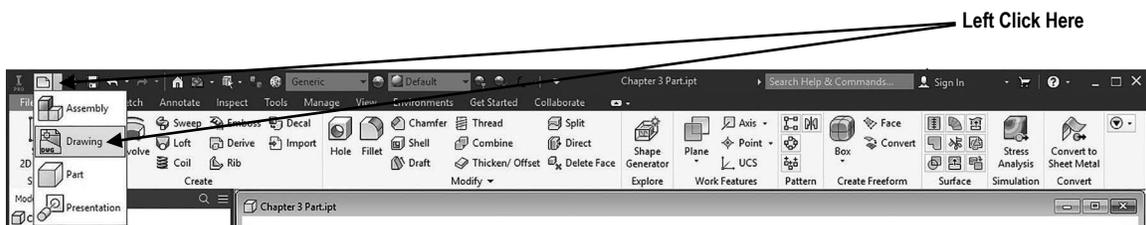

Figure 9
12. After the part file has been saved, move the cursor to the upper left portion of the screen and left click on the drop down arrow to the right of the “New” icon. A drop down menu will appear. Left click on **Drawing** as shown in Figure 9. Once the Drawing Views Panel appears, skip to step 14.